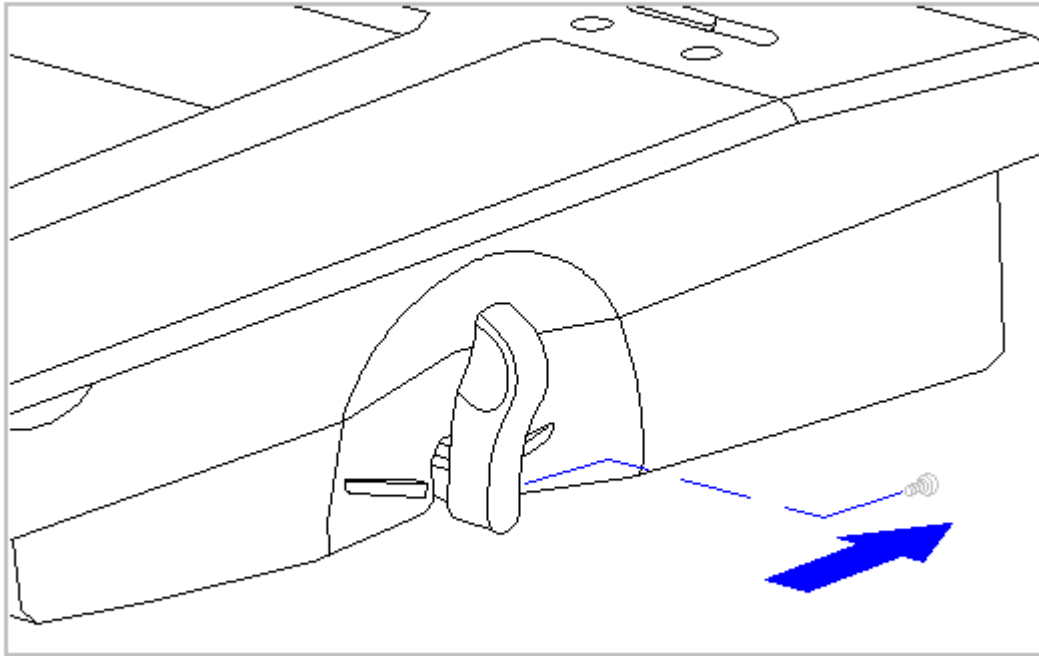

Figure 3-196. Removing the Handle Screw (All Models)
1. Using a Torx T8, remove the screw from the rear of the handle (Figure 3-196).